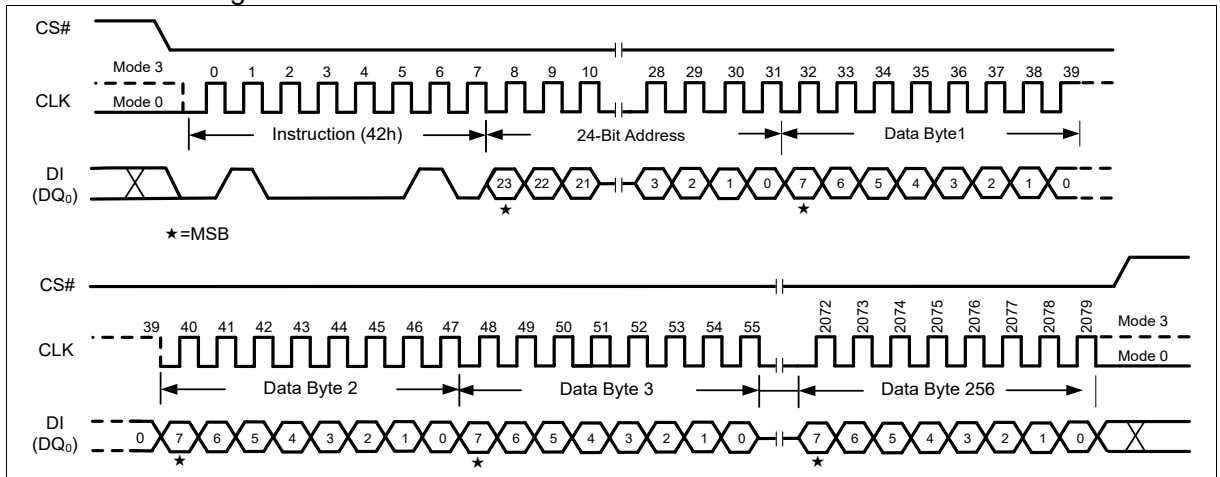

Figure 39 Program Security Sectors Instruction (SPI Mode)
The Program Security Sector instruction sequence is shown in Figure 39. The Security Sector Lock Bit (LB) in the Status Register-2 can be used to OTP protect the Security Sectors. Once a lock bit is set to 1, the Security Sector will be permanently locked, Program Security Sector instruction will be ignored.